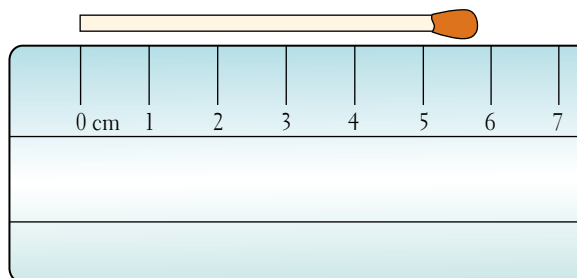

FIGURE 1.1.4 This match is not quite 6 cm long, but is it 5.7, 5.8 or 5.9 cm?
- **reading errors**—measurements often fall between the markings of a measuring device. You need to estimate your measurement, and different people will make slightly different estimations. An example is shown in Figure 1.1.4.